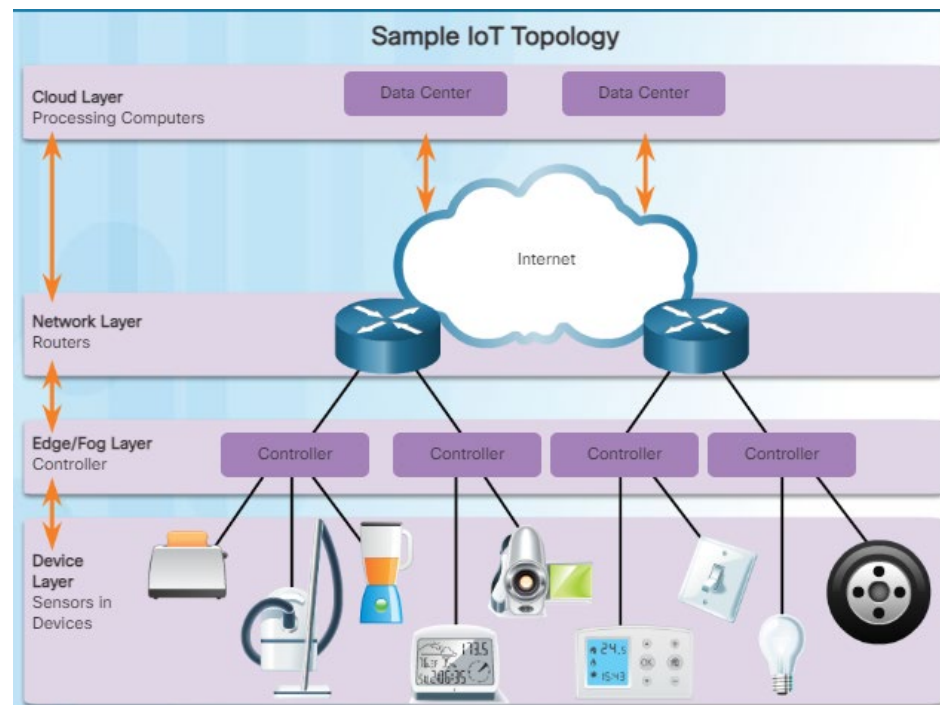

Figure 1
- For example, in Figure 1, the coffee farm displayed could use sensors to collect a variety of information, such as sunlight, temperature, and soil moisture. This data can then be analyzed to help maximize the yield and quality of coffee beans.
**Figure 1** displays a sample IoT topology consisting of **sensors**, **controllers**, **routers** and **data centers**. To reach the more powerful computers in the data center, the controller will first send data to a local router. This router is the interface between the local network and Internet. It can send data back and forth between them.
- As illustrated in Figure 1, a process uses inputs to execute the right actions to achieve the desired output. More formally, a process is a series of steps or actions taken to achieve a desired result by the consumer of the process. A system is a set of rules that govern the series of steps or actions in the process.
- Feedback is when the output of a process affects the input. To illustrate this, consider how feedback was used to safely land on the moon (Figure 1). The computer continually received altitude and speed feedback measurements and displayed this information to the astronaut and on-board systems. The astronaut used the feedback to control the spacecraft and adjust altitude, engine, and thrust levels to successfully land on the moon.